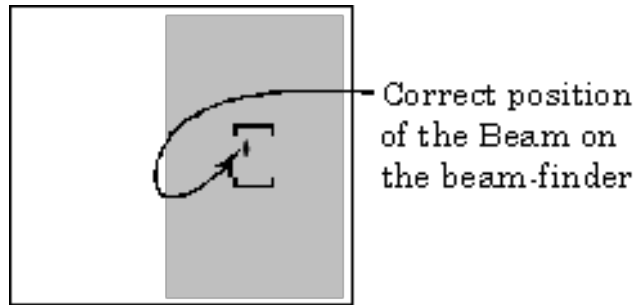

Figure 15: Inside the Spectrometer
3. There is a beam finder inside the unit. Using the knob on the back, bring this beam finder into view and hold it perpendicularly to the horizontal. You should see a dark spot on the beam finder. Orient the beam or spectrometer so that this spot lies in the upper left quadrant of the beam finder brackets (see Figure 15). Then lower the beam finder. Depending on which frequencies are lasing, you should see at least one spot or line under the appropriate wavelength indicator.